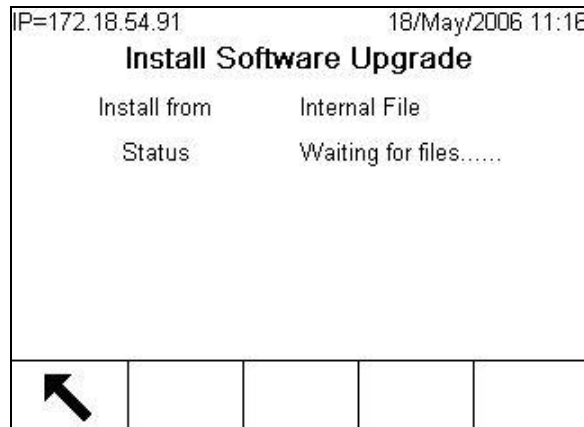

Figure 4-3: Firmware Upgrade – Waiting for Files
7. Press the START softkey  to perform the upgrade. If the files are not present in the Upgrade folder, the screen shown in Figure 4-3 appears. Performing the